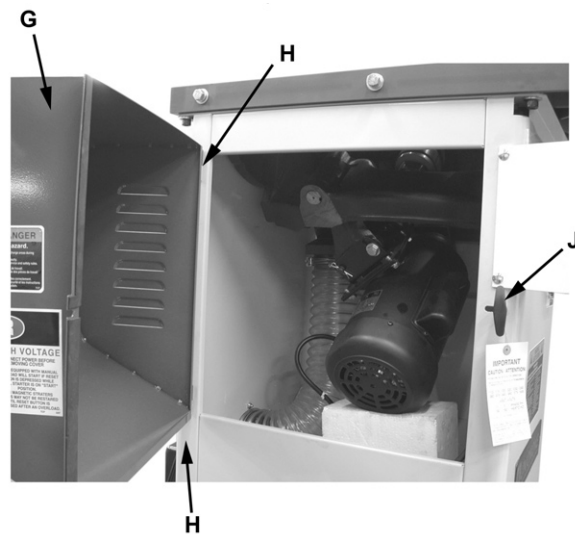

Figure 8
3. Install motor cover (G) by aligning the pins (H) on the cover with brackets on the cabinet. Refer to Figure 8.
4. Fasten cover by pulling out the latch (J), closing the door, and releasing the latch. Refer to Figure 8.
4. Rotate the arbor to line up the slot (C) with the arbor lock (D).
5. Press the arbor lock (D) in the direction shown by the arrow to engage it into the slot (C) in the arbor. At the same time remove the arbor nut (A), loosening with a 27mm wrench if necessary.
6. Remove the collar (B).
7. Install the blade, making sure the cutting teeth at the top of the blade point toward the front of the saw. If unsure, refer to Figure 8 for the proper blade orientation.
8. Replace the collar (B) and arbor nut (A).
9. Engage the arbor lock (D) and tighten the nut (A) with a 27mm wrench.